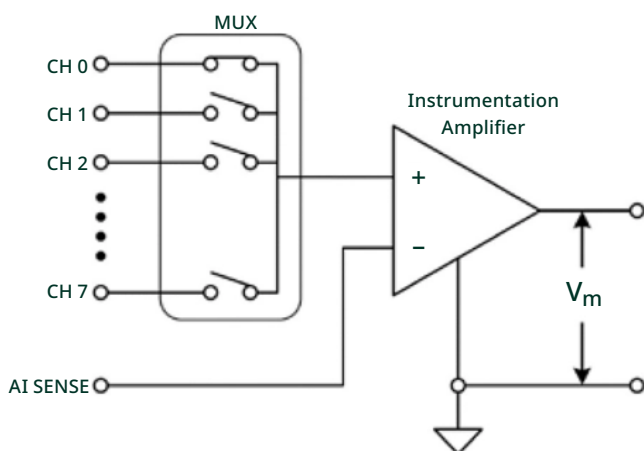

Figure 40. An NRSE instrument's common point is the voltage provided at the negative terminal of the instrumentation amplifier.
- **NRSE** instruments reference a common point; however, the common point is the voltage provided at the negative terminal of the instrumentation amplifier. In the NRSE example shown in Figure 40, the common reference is the AI SENSE line; therefore, the measured voltage is the potential difference between CH X and the voltage at the AI SENSE channel.